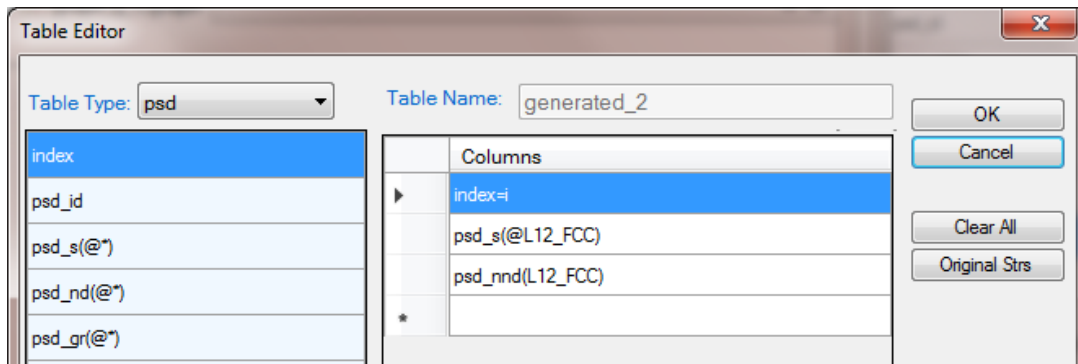
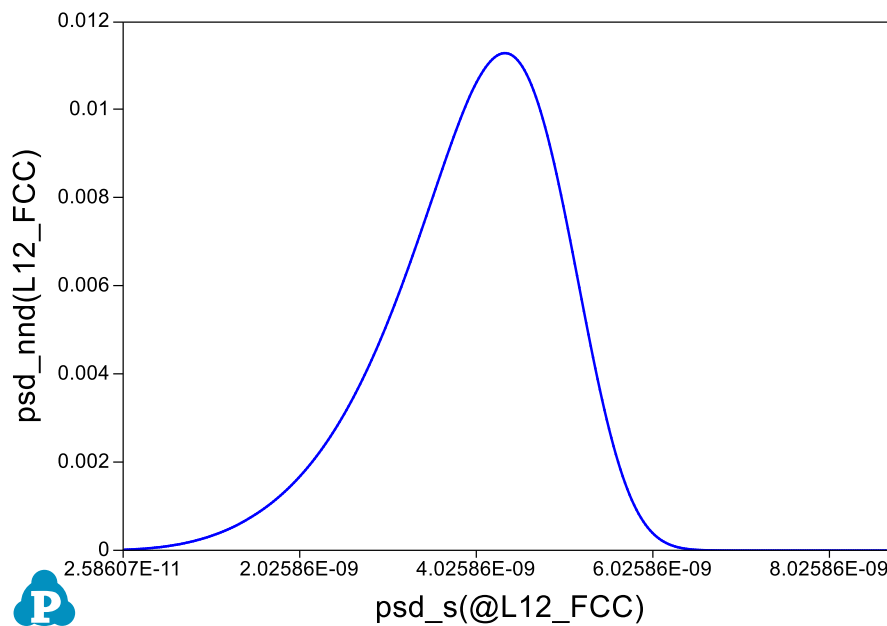

Figure 3.1.12: Create the table for final size distribution
Figure 3.1.13: Plot for final size distribution and the plot
- To only plot the particle size distribution curve at one time, set the $index=1$, or 2...or i . $index=i$ means the final distribution. Figure 3.1.12 shows the table created for the final size distribution and Figure 3.1.13 shows the distribution curve;